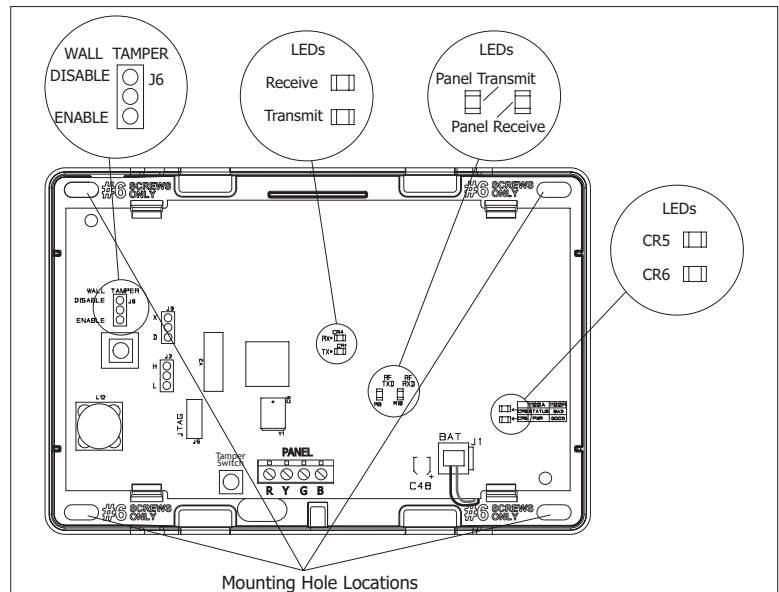
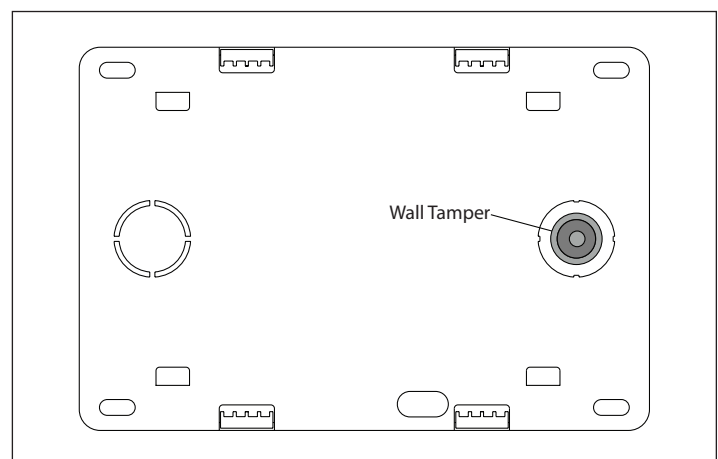

Figure 1: Receiver PCB
Figure 2: Wall Tamper location
The 1100A+ Wireless Receiver is equipped with a case tamper and a wall tamper. A three position Wall Tamper header (J6) is provided to disable the wall tamper. To disable the wall tamper, place the jumper across pins one (DISABLE) and two of the header. If wall tamper is required, place the jumper over pins two and three (ENABLE) of the header. See Figure 1 and Figure 2.
2. Using the four mounting holes shown in Figure 1, secure the base to the wall with the provided #6 screws, ensuring that the wall tamper switch makes proper contact with the wall.